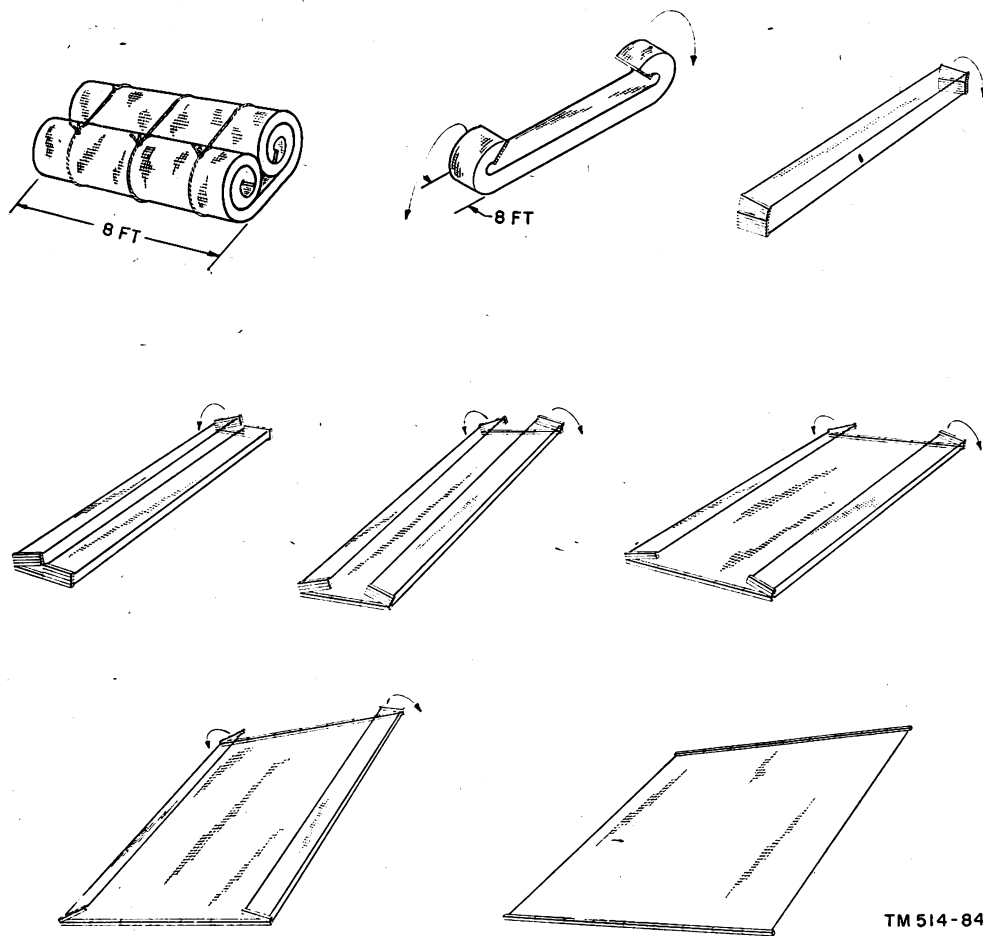

Figure 19. Counterpoise MX-313/CRD-2, unfolding.
18. Counterpoise MX-313/CRD-2 (fig. 19)